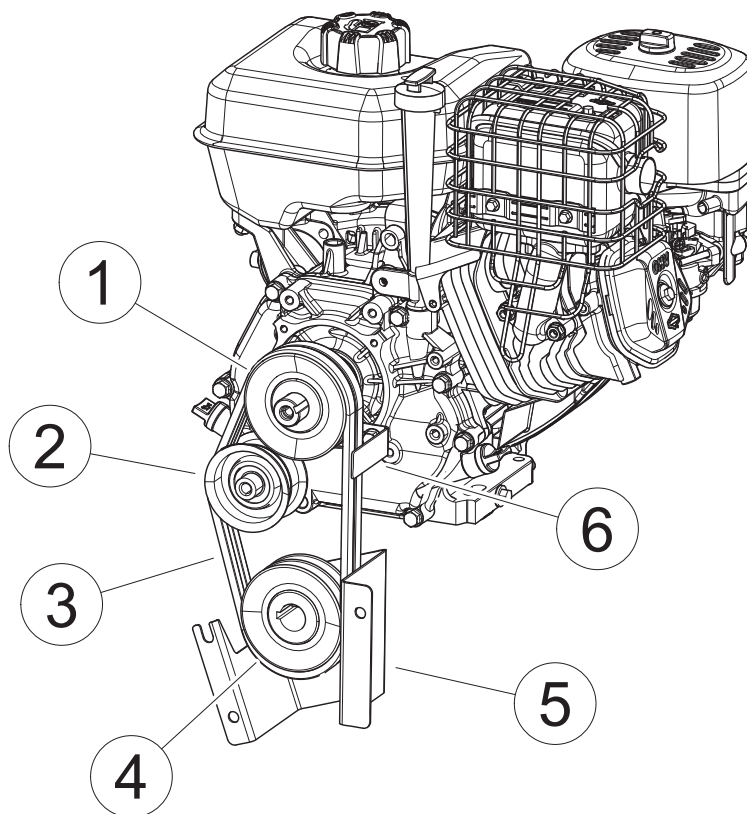

Figure 5.11
2. Loosen set screws and using a straightedge align the engine pulley (1) with the idler pulley (2) and the rotor pulley (4) with the engine pulley (1). See Figure 5.11. Tighten all set screws.
3. Engage the clutch with the belt (3) in place and check idler engagement. See Figure 5.11. The idler pulley should impact the belt in the center of the pulley. All pulleys must be in perfect alignment. Torque pulley set screws to 160 in-lbs.